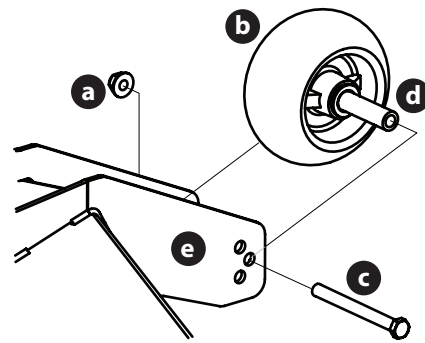

Fig. 48
- Remove the lock nut (a) securing one of the front gauge wheels (b) to the deck. Remove the front gauge wheel (b), hex screw (c) and spacer (d) (Fig. 48).
- Insert the hex screw (c) into one of the three index holes in the front gauge wheel bracket (e) that will give the front gauge wheel (b) a 1/4-1/2" clearance with the ground (Fig. 48).
- Note the index hole of the just-adjusted front gauge wheel (b), and adjust the other front gauge wheel (b) into the respective index hole of the other front gauge wheel bracket (e) (Fig. 48).